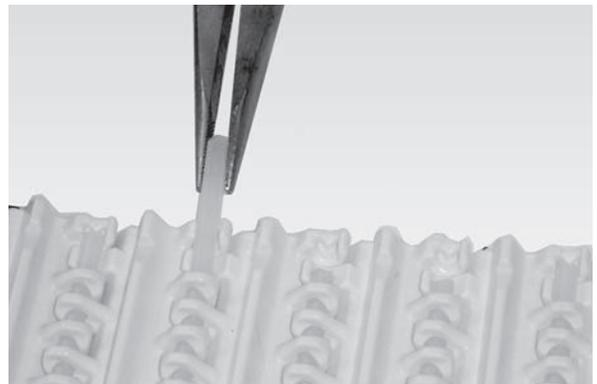

Figure 61
3. Remove the belt rod by gripping the end with a set of pliers and pulling (Figure 61).